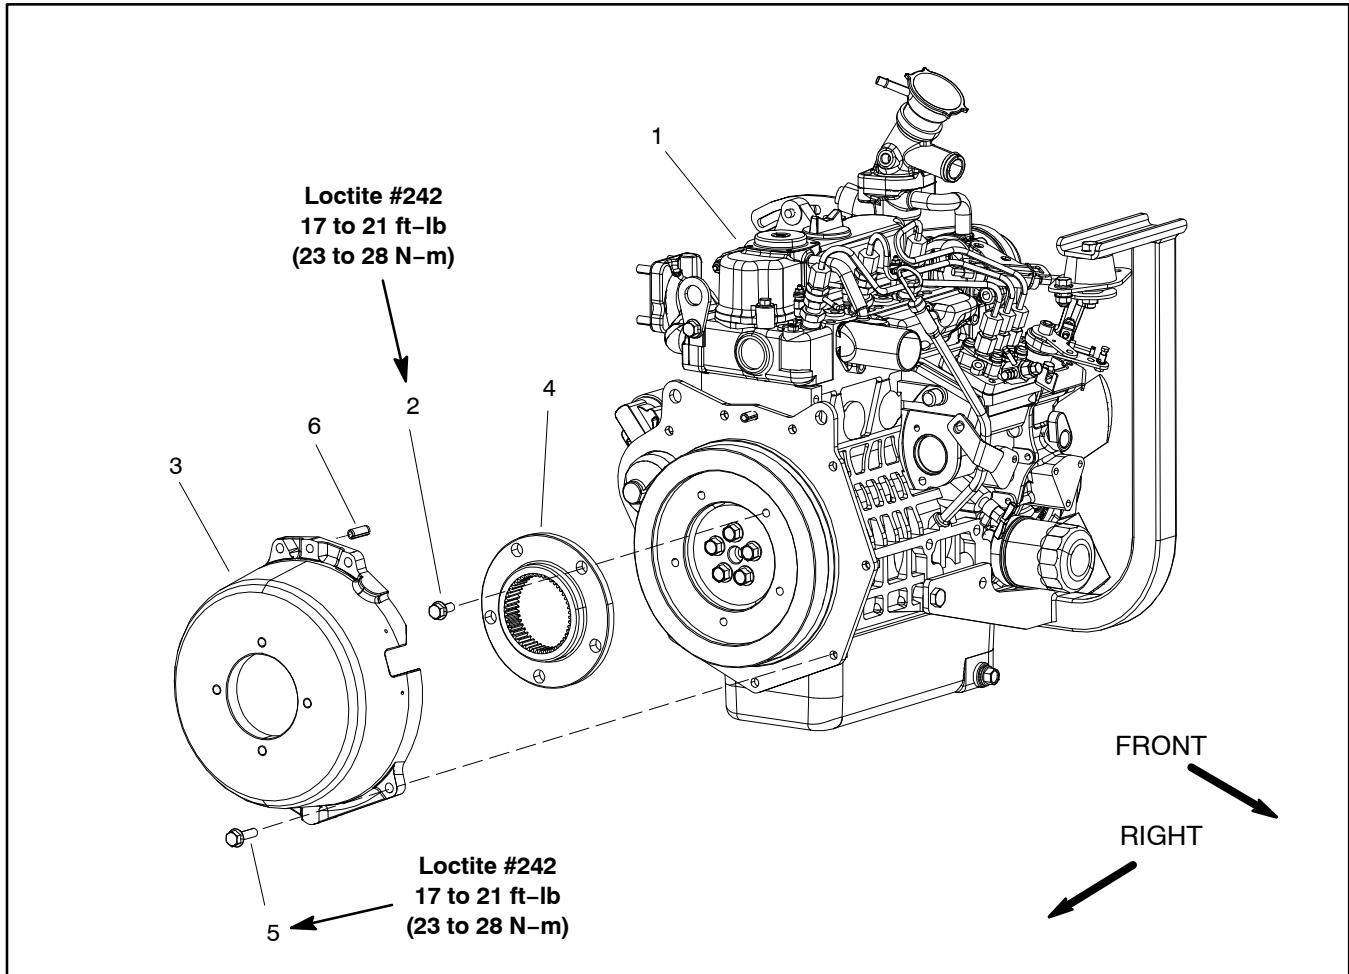

Figure 17
Removal (Fig. 17)
2. As necessary, remove bell housing and coupling flange from engine using Figure 17 as a guide.
Installation (Fig. 17)